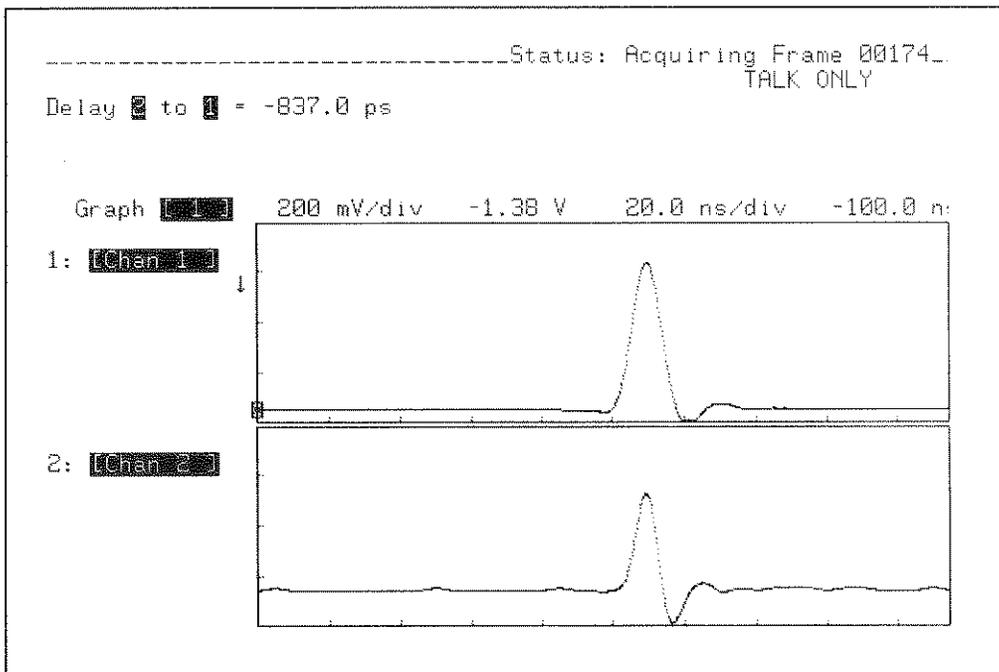

Figure 10-15. A8TP3 to A8TP2 Delay Waveform
9. Move the 54200D Input 2 probe from A8TP1 to A8TP3. The display should appear similar to figure 10-15. Adjust A8R28 until the DELAY measurement from 2 to 1 is approximately zero seconds ( $\pm 1$  ns).